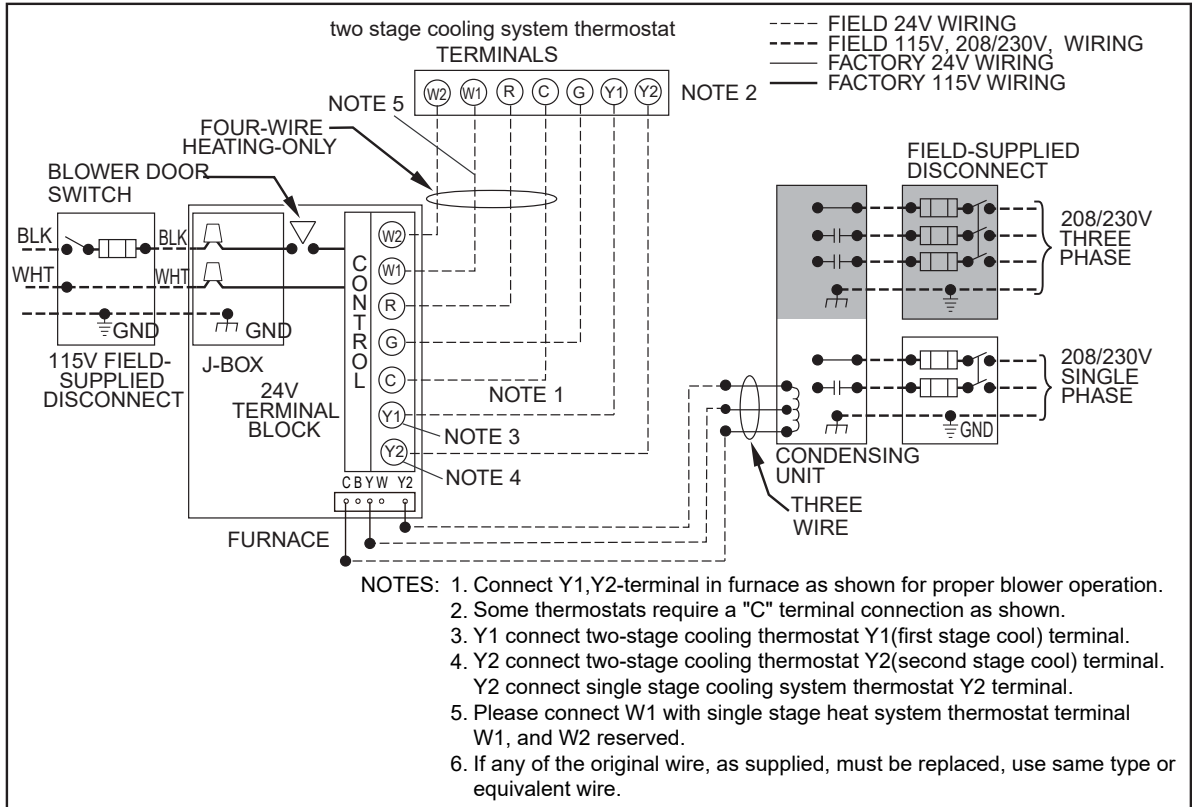

Fig.9-3 Heating and Cooling Application Wiring Diagram with I-Stage Thermostat
12. Complete electrical box wiring and installation. Connect line voltage leads as shown in Fig. 9-3. Use best practices (NEC in U.S. and CSA C22.1 in Canada) for wire bushings, strain relief, etc.
5. Connect line voltage leads as shown in Fig. 9-3.
1. Maintain 115V wiring and ground. Improper polarity will result in rapid flashing LED and no furnace operation. (See Fig. 9-3)
2. Make thermostat wire connections at the 24-V terminal block on the furnace control. Failure to make proper connections will result in improper operation. (See Fig. 9-3.)
(See Fig. 9-3 for thermostat connections.)